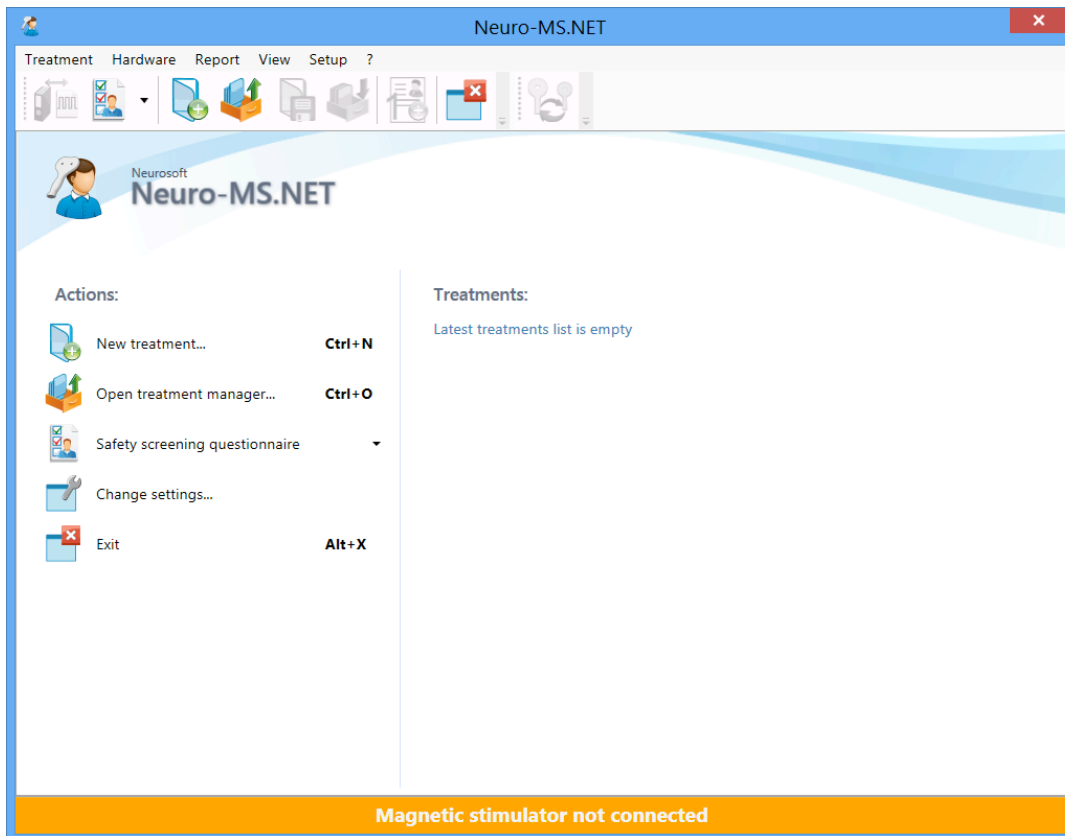

Fig. 25 Start page.
6. Press “New treatment” button  on start page (Fig. 25).